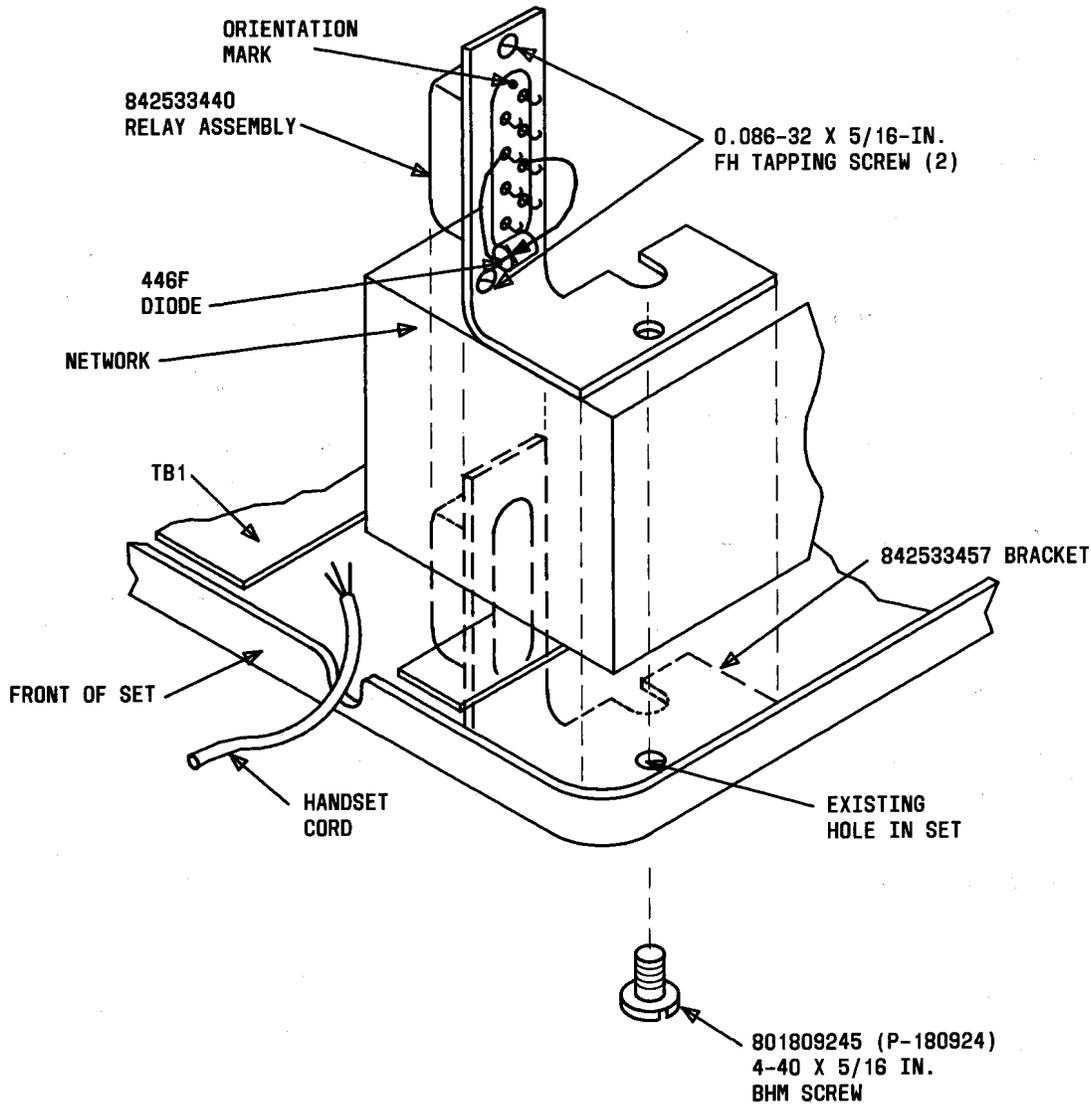

Fig. 6—Mounting Location for D-180990 Kit of Parts for 4-Wire Service
- (1) Mount the relay assembly in the front right-hand corner of the telephone set using mounting bracket and screws as shown in Fig. 6.